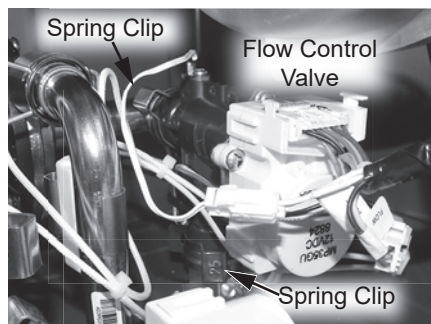

Figure 223 - Flow control valve location
- 17 Locate the flow control valve at the bottom right side of the water heater as shown in Figure 223.